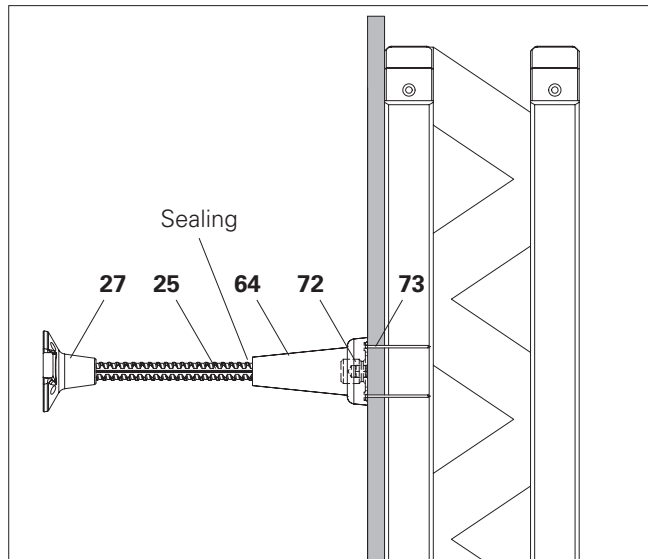

Fig. F2.02
1. Nail the Anchor Posit. Stud M36 (72) to the front side of the formlining using 6x wire nails 3.0x80 mm (73).
2. Screw Climbing Cone-2 DW26 M36 ga (64) onto the Anchor Posit. Stud M36 ga (72).
3. Screw Tie Rod DW26 (25) onto the Climbing Cone-2 DW26 M36 (64).
4. Screw Threaded Anchor Plate DW26 (27) onto Tie Rod DW26 (25). (Fig. F2.02)